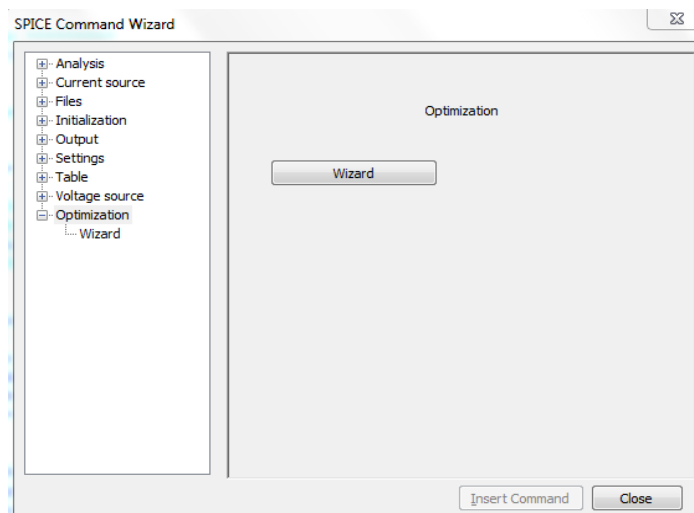

Figure 75: Customizing the optimization
- ☑ In the left-hand tree, double-click **Optimization** (Figure 75).